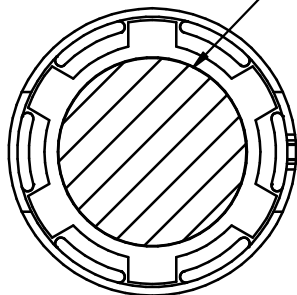

FIG. 2
1. Place desired lens/media into silicone spacer. (Repeat if (2) desired.)
2. Position lens/media assembly into bottom of lens holder as shown in Fig 2.
3. Insert (1) provided thumb screw into track head.